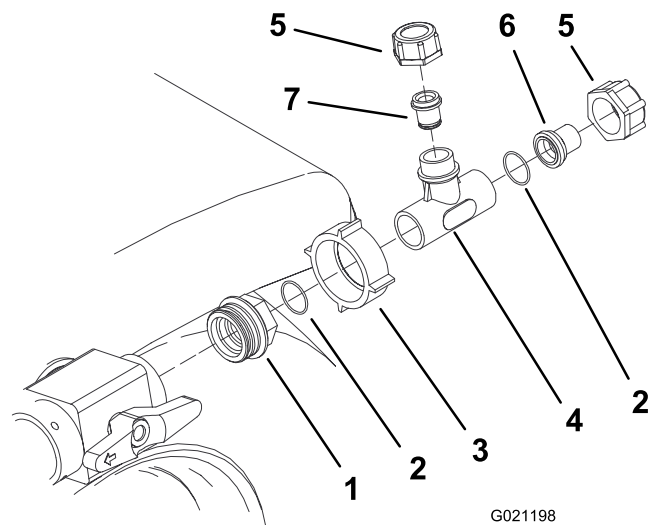

Figure 10
- Connect the large adapter end of the tee assembly to the control valve (Figure 10).
- Turn the large plastic nut to secure the tee assembly to the control valve (Figure 10).